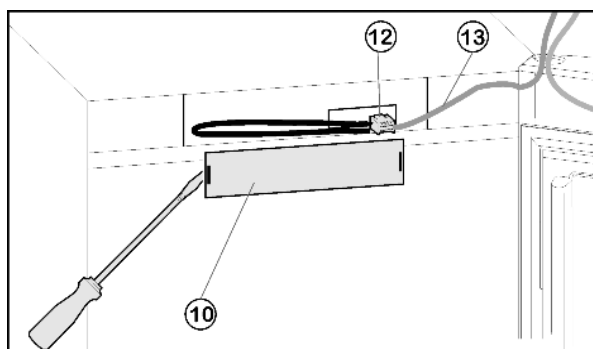

Fig. 4
- ▶ Remove the front panel Fig. 4 (10) using a flat-blade screwdriver.
- ▶ Take out the contact and disconnect the plug connection Fig. 4 (12).
- ▶ Detach grey cable Fig. 4 (13) from the guide.
- ▶ Plug in the connector *Fig. 4 (12)* again.
- ▶ Attach the cover *Fig. 4 (10)* again.